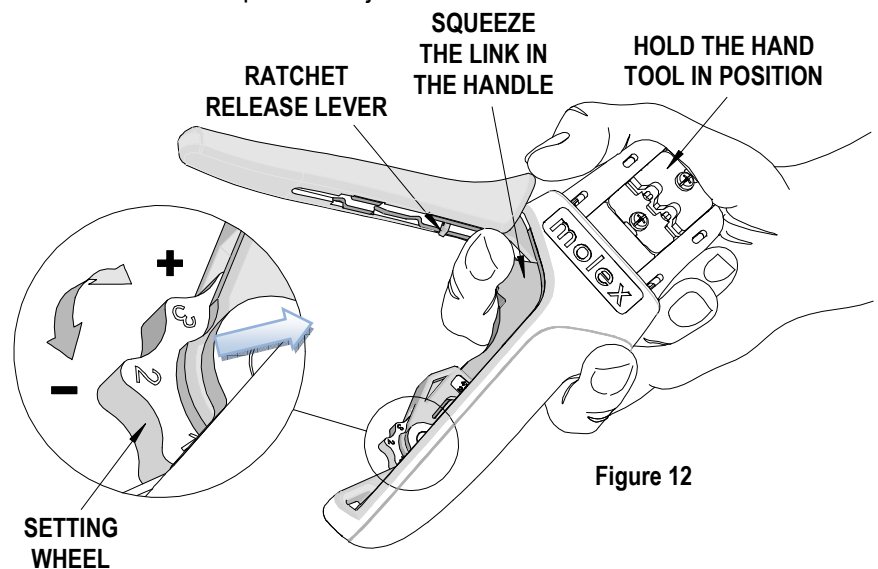

Figure 12
## How to Adjust Tool Preload (See Figure 12)
1. Hold the hand tool in the palm of your hand as shown in Figure 12. Using the index finger squeeze the link towards the top of the hand tool frame. This will release the preload adjustment wheel.
2. Rotate the setting wheel counter-clockwise (CCW) to increase handle force. The numbers will display higher. To decrease handle force, rotate the setting wheel clockwise (CW).